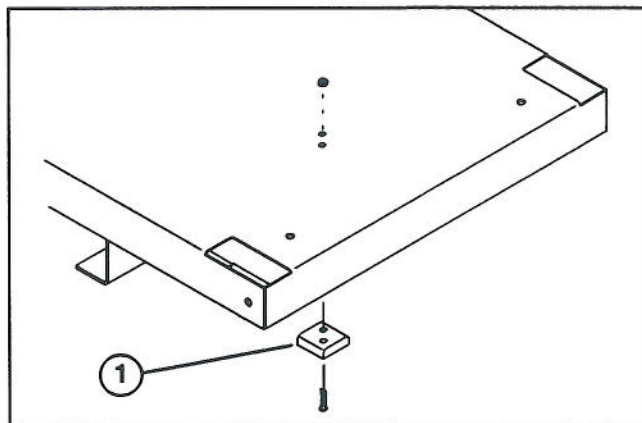

Figure 1
1. Remove machine screws and locknuts securing the spacer blocks to under side of bed (Fig. 1).